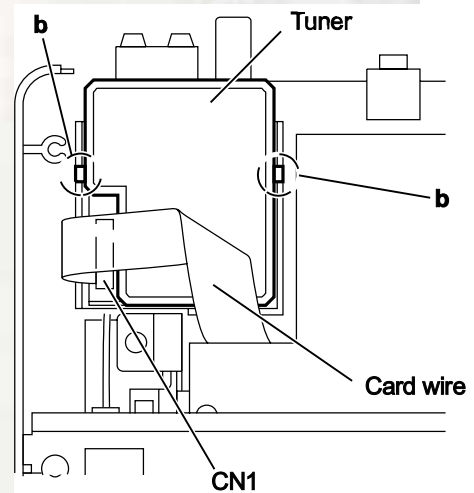

Fig.12
- Release the claws **b** of the tuner holder and take out the tuner from the main body. (See Fig.12.)
- Disconnect the card wire from the connector **CN1** on the tuner. (See Fig.12.)